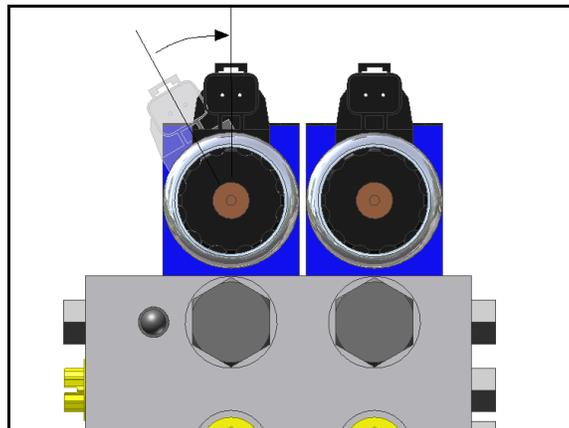

Figure 19: Align Coils
2. Verify the valve coil connectors are oriented vertically (Figure 19).